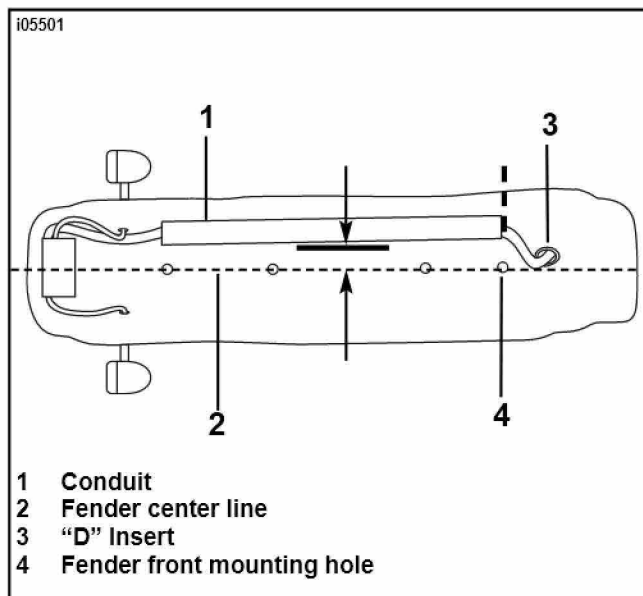

Figure 2. Measure a 2-3/8 to 2-1/2 in. line for Conduit Positioning
2. See Figure 2. Slide the wiring harness through the "D" hole in the new fender and secure by installing the "D" insert surrounding the harness to the fender.
3. See Service Parts Illustration. Obtain conduit (12) and route wiring through conduit.
- c. See Figure 2. Measure and mark a 2-3/8 to 2-1/2 inch line from centerline of fender, then mark a line even with the front fender mounting hole.